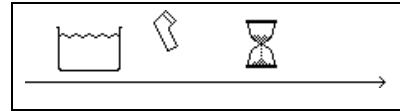

Figure 7
- 10) Ensure the treatment head to be dry and clean, then turn up the intensity knob. The Phyaction 190 will now tune the treatment head. The Phyaction 190 will show figure 7 during tuning.